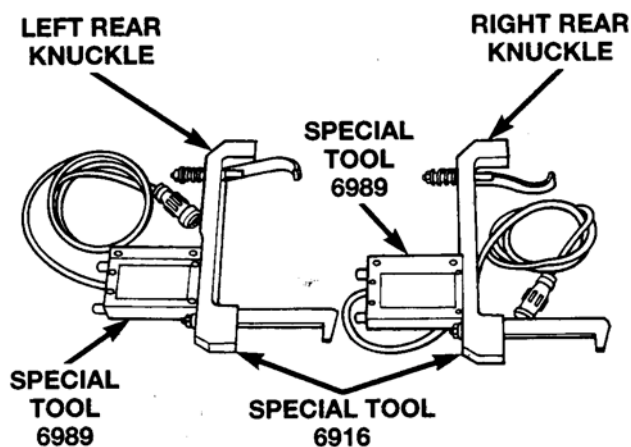

Figure 19
6. Mount the inclinometers to the rear Caster Angle Fixtures (Special Tool #6916) (Figure 19).